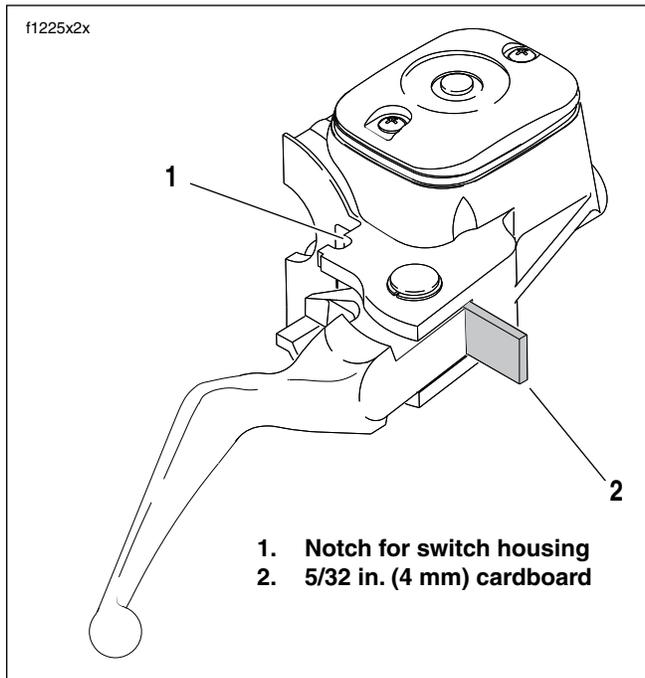

Figure 2-10. Cardboard Insert
- See Figure 2-10. Squeeze front brake lever and insert a 5/32 in. (4 mm) thick cardboard insert between front brake lever and lever bracket.